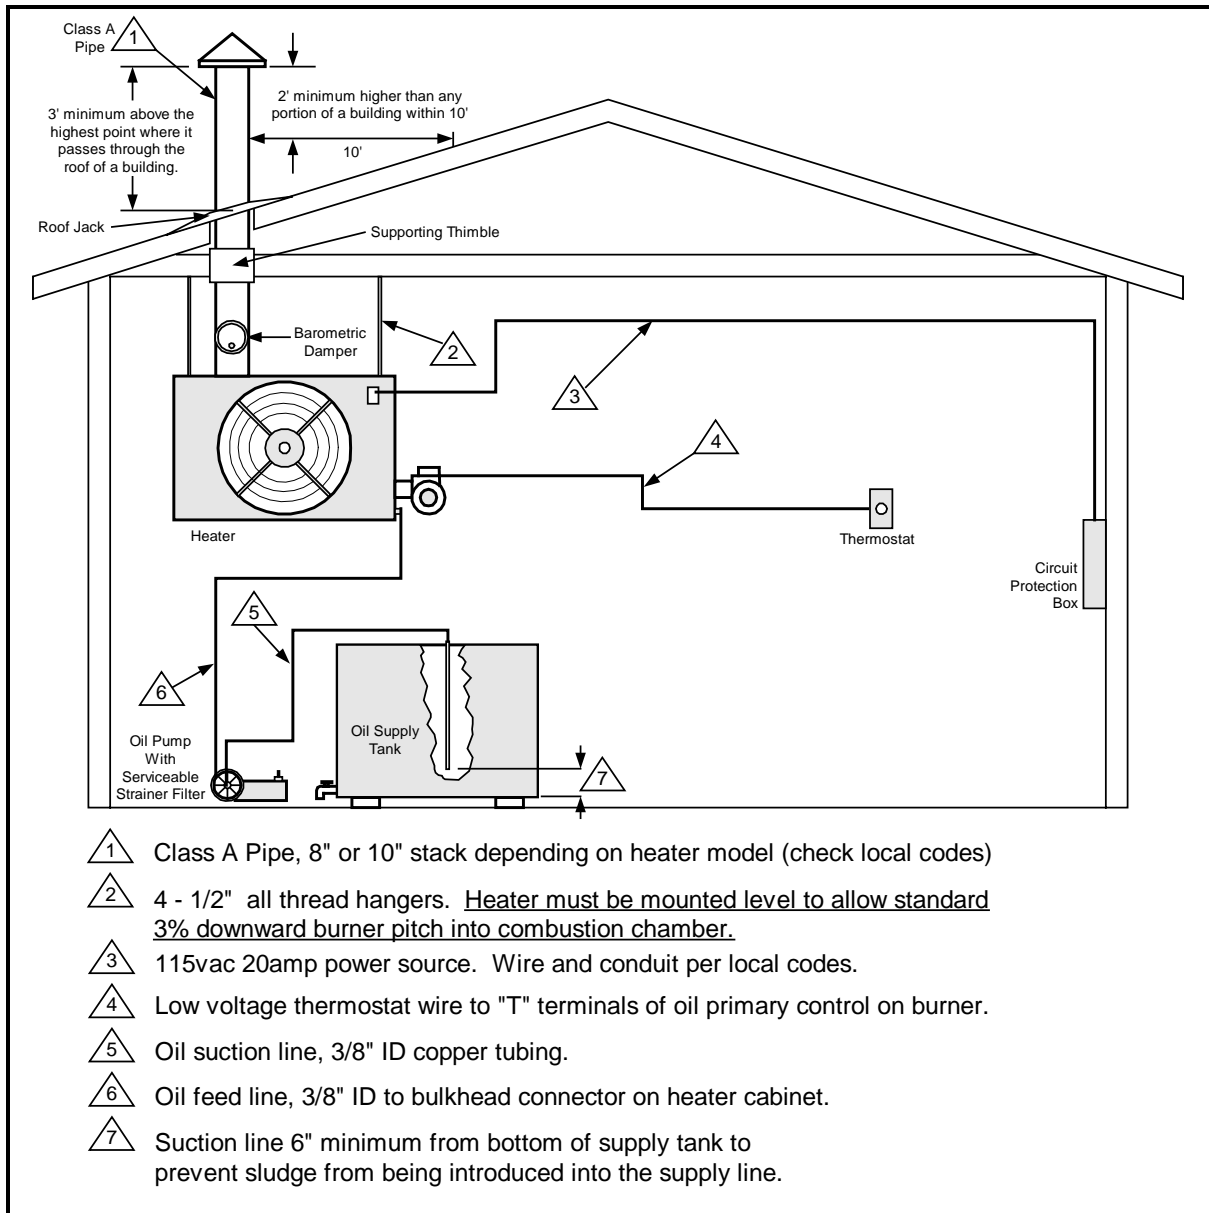

Figure 1 – Installation Diagram
4. **The fuel supply pump included with heater is to be mounted at tank level or below.** (figure 1). This pump turns slowly requiring a number of minutes to accomplish purging ALL air, if bubbles, skips, even slight pulsations in the oil flow from pumps bleeder port is unacceptable and must be removed assuring proper oil flow to heater. Otherwise the flame sensor will not see enough flame and heater will lockout. **NOTE: PUMP ASSEMBLY MUST BE MOUNTED HORIZONTAL.**
5. Connect 3/8" oil supply line from the supply tank through the filter (figure 1) to the pump inlet located same side as bleeder port. (figure 6) Continue oil supply line from pump outlet to bulk head fitting secured to cabinet at left side of burner assembly (bulk head fitting has fuel flex hose connecting it to burner).